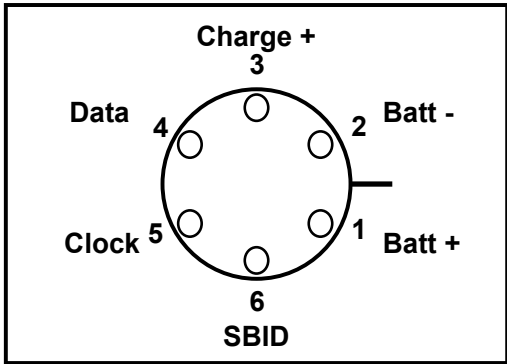

FIGURE 2. Terminal marking detail
3.5.4 Charge enable. The charge enable socket, or Smart Battery Identity (SBID) socket (see figure 2), shall comply with the following: